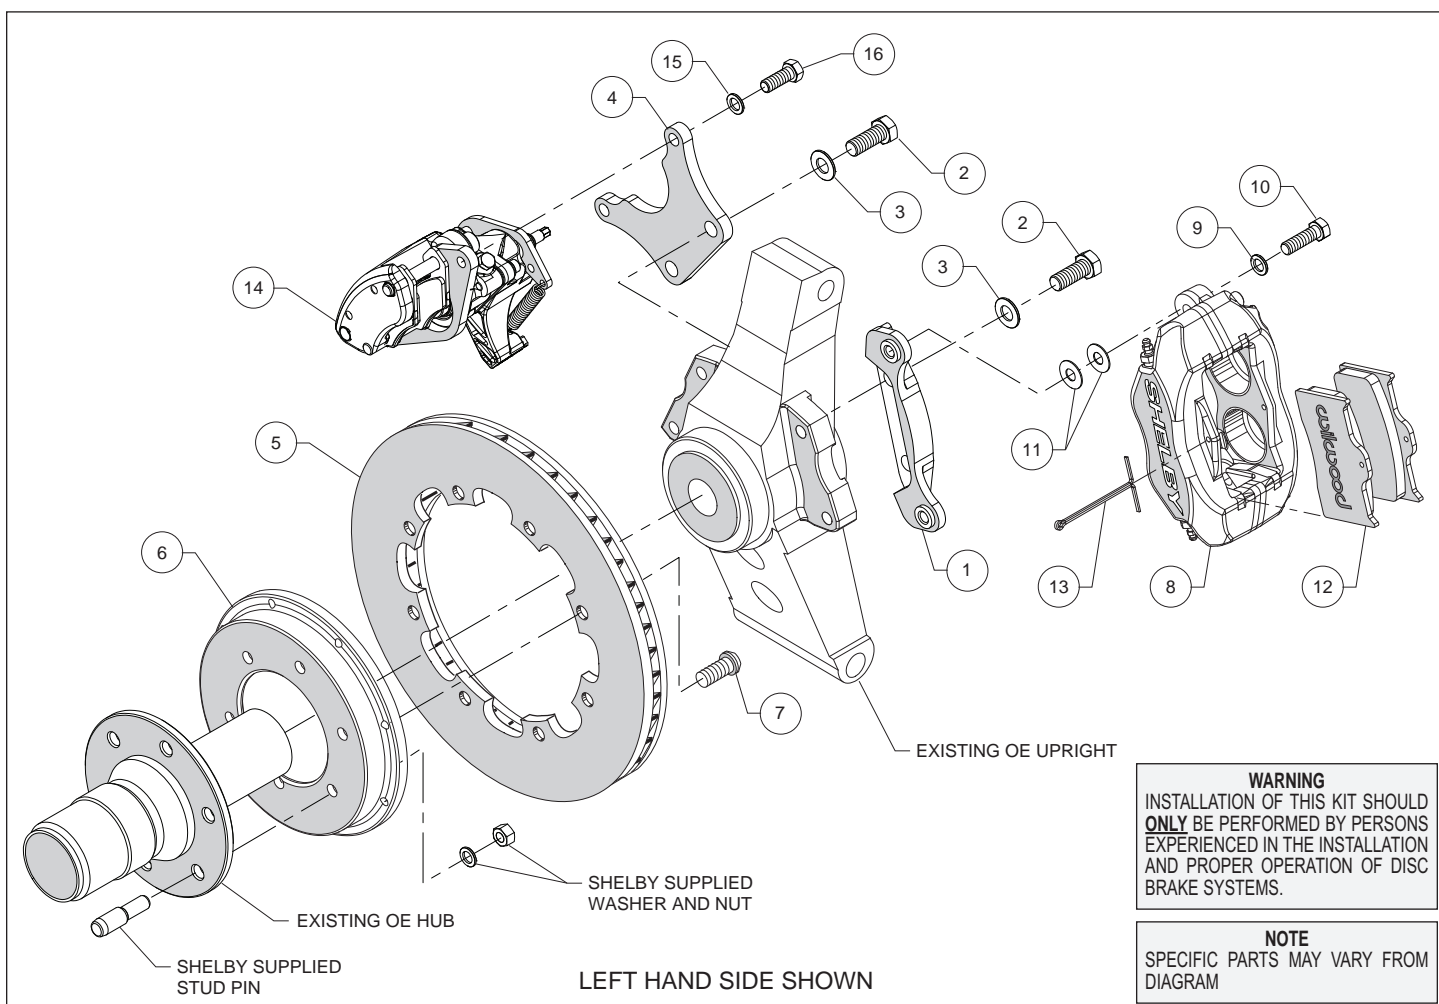
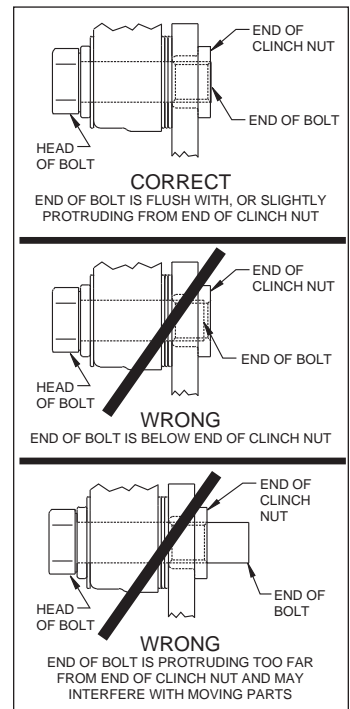

Figure 1. Typical Installation Configuration
Figure 3. Clinch Nut Engagement Diagram
Assembly Instructions (numbers in parenthesis refer to the parts list and Figure 1 on the preceding pages): **CAUTION:** All mounting bolts must fully engage clinch nuts. Be sure to check that all bolts are either flush or protruding through flanged side of clinch nut after shimming, Figure 3.
• Orient the Dynalite caliper mount bracket (1) as shown in Figure 1 and install using bolts (2) and washers (3). Ensure that the flanged heads of the clinch nuts in the bracket are facing outboard, Figure 1. Temporarily tighten the mounting bolts. **NOTE:** The bracket must fit squarely against the mount bosses on the upright. Inspect for interference from casting irregularities, machining ridges, burrs, etc. Remove bolts one at a time, apply red *Loctite*® 271 to the threads and torque nuts to 60 ft-lb.
• Orient the parking brake caliper mount bracket (4) as shown in Figure 1 and install using bolts (2) and washers (3). Temporarily tighten the mounting bolts. **NOTE:** The bracket must fit squarely against the mount bosses on the upright. Inspect for interference from casting irregularities, machining ridges, burrs, etc. Remove bolts one at a time, apply red *Loctite*® 271 to the threads and torque nuts to 60 ft-lb.
• Orient the rotor (5) and the rotor adapter (6) as shown in Figure 1 and Photo 1. Attach the rotor to the adapter using bolts (7). Using an alternating sequence, apply red *Loctite*® 271 to the threads, and torque to 25 ft-lb.
• Mount the adapter/rotor assembly (5/6) to the hub (customer supplied) using stud pin, washer and nut (all customer supplied), as shown in Figure 1. Using an alternating sequence, apply red *Loctite*® 271 to the threads, and torque nuts to manufacturer's specifications.
• **NOTE:** Please reference the caution statement at the beginning of the assembly instructions. Mount the Dynalite caliper (8) onto the Dynalite caliper mounting bracket (1) using bolts (10) and washers (9), as shown in Figure 1. Initially place two .035" thick shims (11) on each bolt between the caliper and the bracket, Photo 2. Temporarily tighten the mounting bolts and view the rotor (5) through the top opening of the caliper. The rotor should be centered in the caliper, Photo 3. If not, adjust by adding or subtracting shims between the bracket and the caliper. Always use the same amount of shims on each of the two mounting bolts. **NOTE:** The end of each bolt must be flush with or slightly protruding from the head of the clinch nut, as shown in Figure 3. If necessary place spare shims between washer (9) and caliper mounting ear to achieve the proper clinch nut engagement. Once the caliper alignment and clinch nut engagement are correct, remove the bolts one at a time, apply red *Loctite*® 271 to bolt threads, and torque to 40 ft-lb.
- Mount the parking brake caliper (14) onto the parking brake caliper mounting bracket (4) using bolts (16) and washers (15), as shown in Figure 1. Apply red *Loctite*® 271 to bolt threads, and torque to 40 ft-lb.